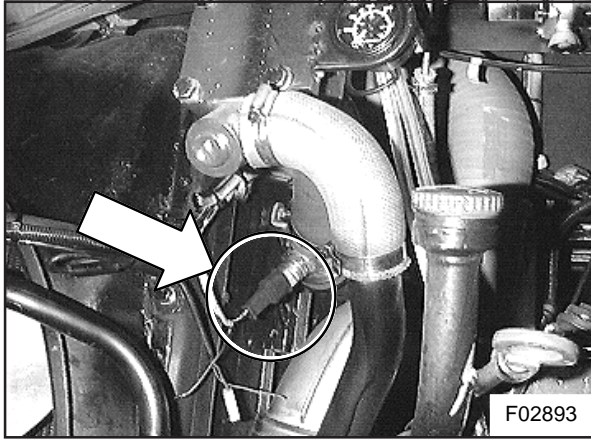

Figure 4 : Coolant temperature switch on coaches with Cummins engine and retarder (B500R)
On coaches equipped with Cummins engine and B500R, relay no. RL909/RL505 is replaced by coolant temperature switch (K512). To check whether this switch is operating properly, disconnect the plug in the engine compartment (see Figure 4) and install a jumper wire between its terminals. If the fan clutch does operate with the jumper wire installed, and does not work with the switch connected, the switch is faulty and needs to be replaced. If the fan clutch does not work with the jumper wire in place, go to item 6 or 7.